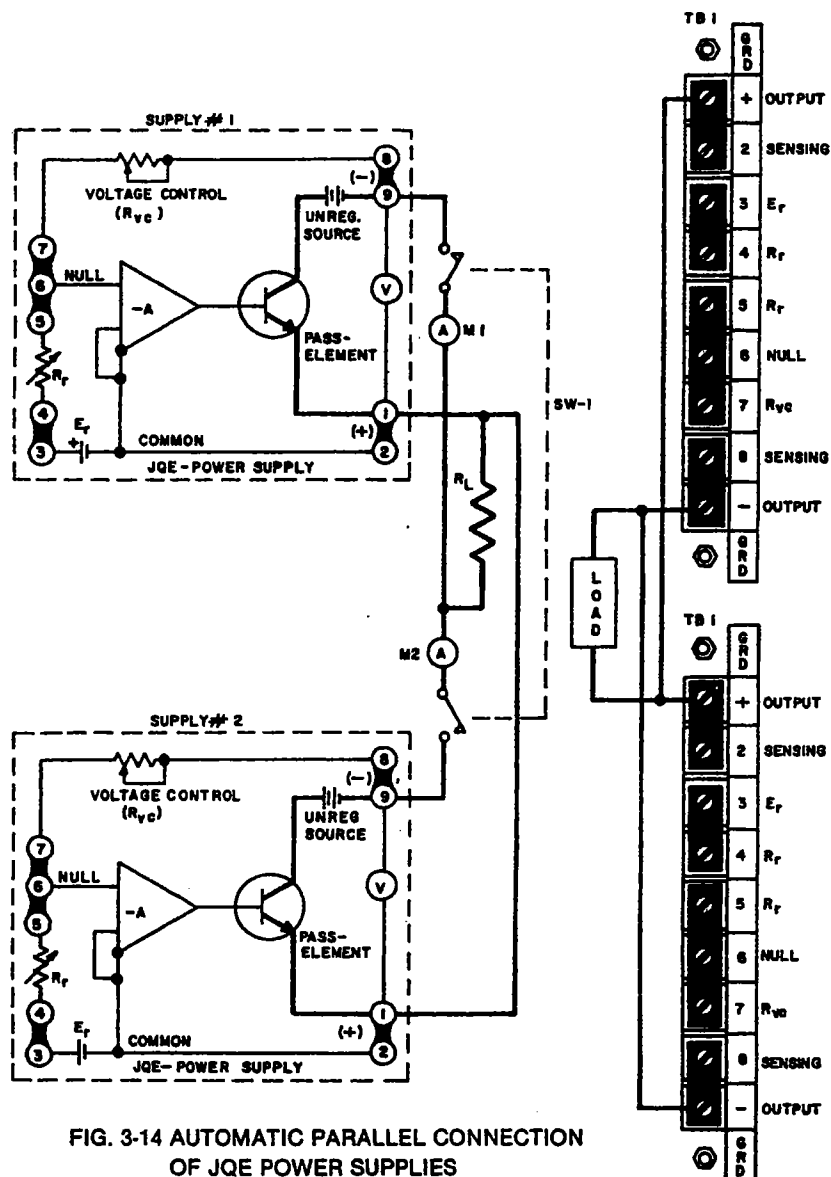

FIG. 3-14 AUTOMATIC PARALLEL CONNECTION OF JQE POWER SUPPLIES
3-43 PROCEDURE (Refer to FIG. 3-14)
- a) Connect units as shown in FIG. 3-14. Open SW-1 and connect to line.